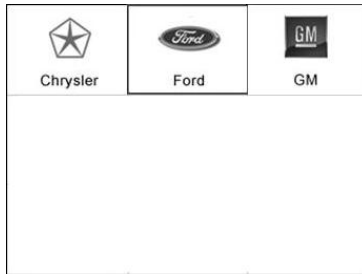

Figure 4.2
- 1) Select the **Ford** logo from the car make screen. (Figure 4.2)